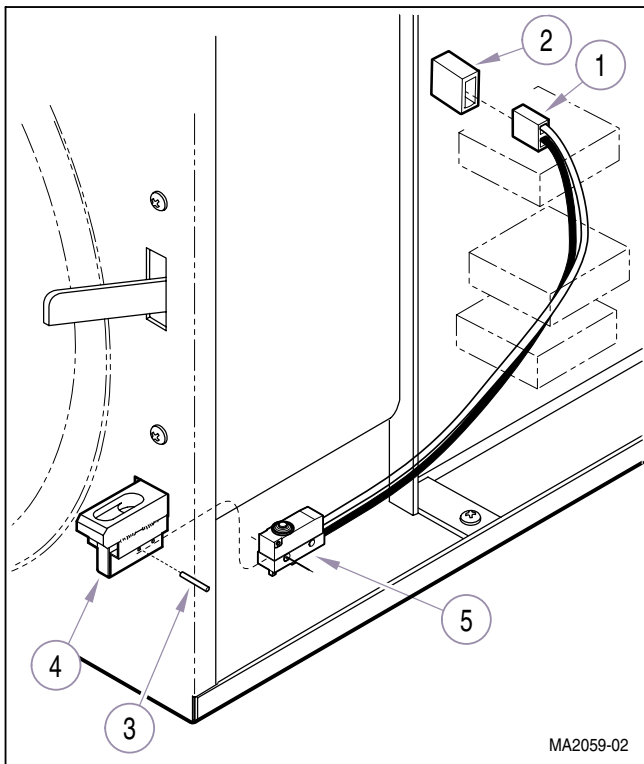

Figure 4-16. Door Switch Removal / Installation
- (1) Open sterilizer door.
- (2) Remove right hand side panel (Refer to para 4.3).
- (3) Disconnect wire harness (1, Figure 4-16) from connector (2).
- (4) Using 3/32 in. punch, remove two roll pins (3) from door switch bracket (4) (Refer to Table 1-2 for special tool).
- (5) Remove door switch (5) from door switch bracket (4).